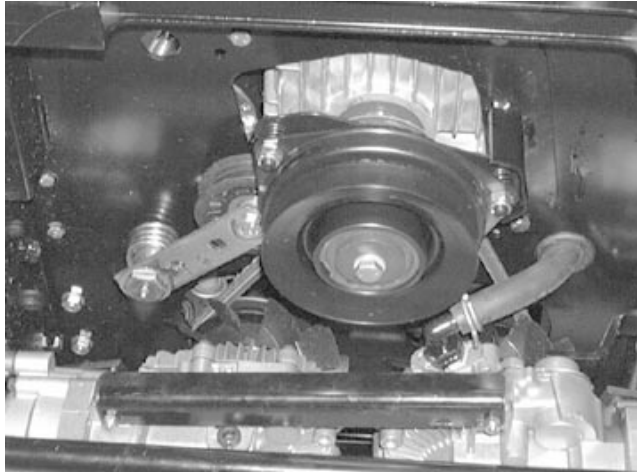

Figure 5
4. TO CHANGE THE PUMP DRIVE BELT: See Figure 5.